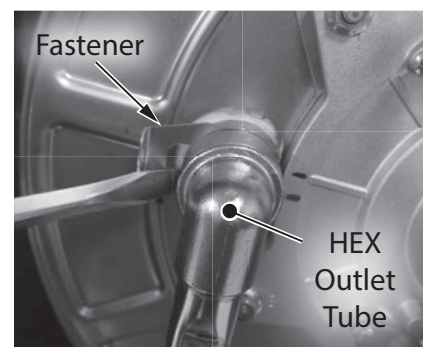

Figure 139 - Remove fastener securing HEX outlet tube
**27** Locate the fastener securing the HEX outlet tube to the heat exchanger as shown in Figure 139. Use a flathead screwdriver to gently pry the fastener free. Remove fastener and place it aside in a safe place for reinstallation.